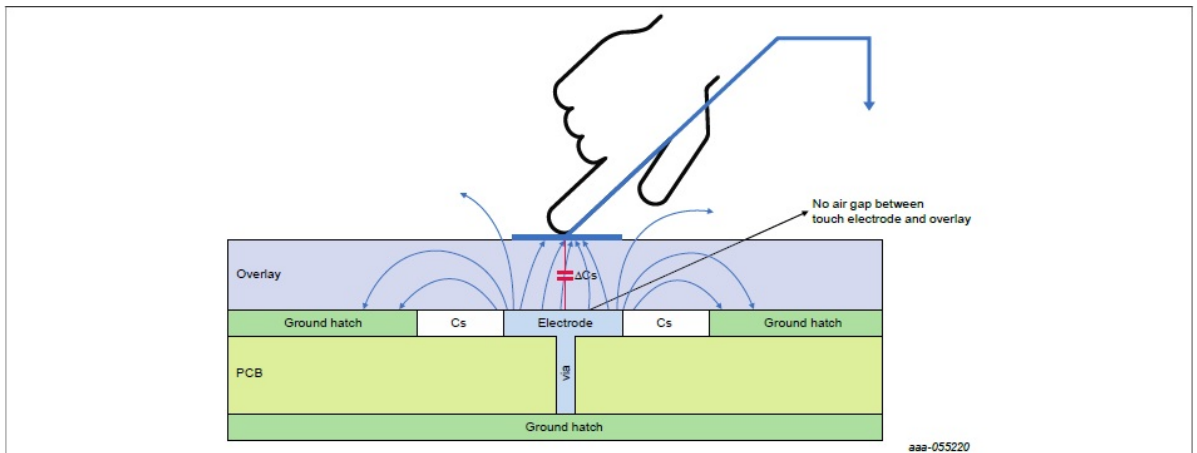
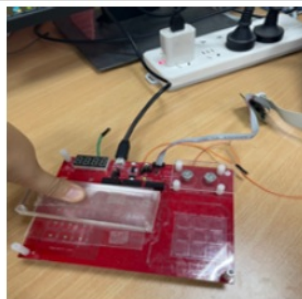

Figure 15. Overlay thickness test base on the acrylic
Figure 16. Overlay thickness test base on the acrylic
- To protect the touch electrode from the interference of the external environment, the overlay material must be closely attached to the surface of the touch electrode. There should be no air gap between the touch electrode and the overlay. An overlay with a high dielectric constant or an overlay with a small thickness improves the sensitivity of the touch electrode. The maximum overlay thickness of the acrylic overlay material was tested on the X-MCX-N9XX-TSI board as shown in Figure 15 and Figure 16. The touch action can be detected on the 20 mm acrylic overlay.